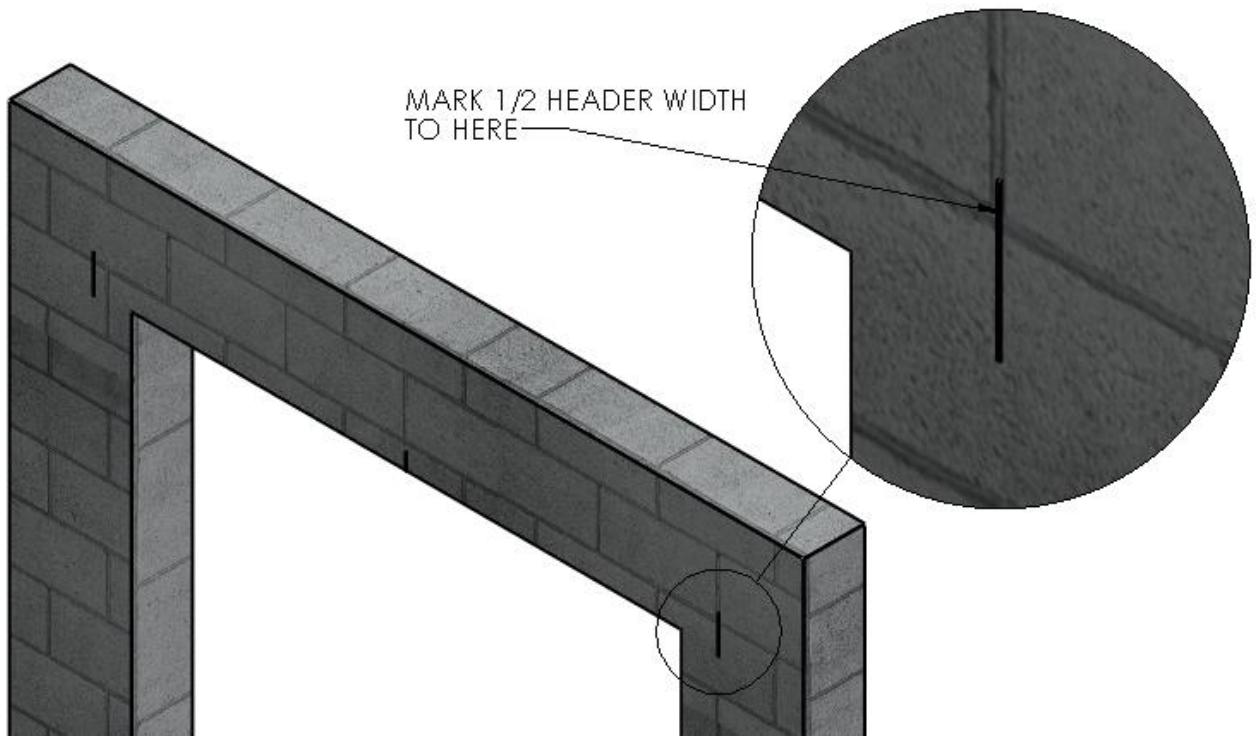

Figure 3 MARK DOOR WIDTH ON WALL
4. Divide that number by 2 and measure to each side of the center mark in step 1. Mark a vertical line at these locations. This is where the outer edges of the Header Bracket Assembly's offset mount flanges will be. (Figure 3 MARK DOOR WIDTH ON WALL)